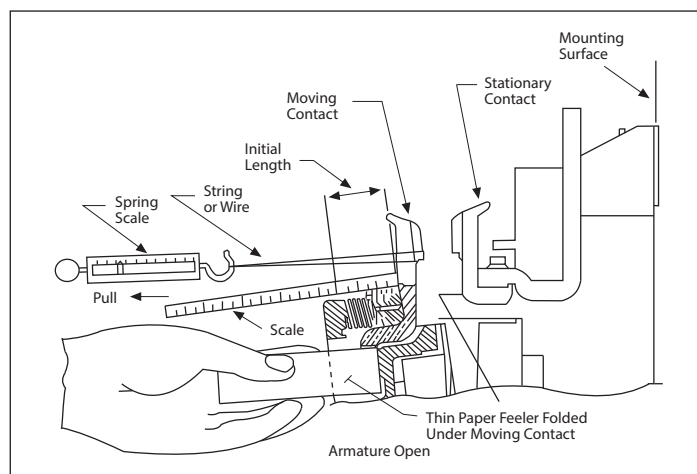

Figure 8. Initial Contact Force And Spring Length Measurement
The initial contact overtravel, with new contacts, is 5/32 to 13/64 inches and is measured with the power off as shown in **Figures 8** and **9**. Contact replacement is necessary when the overtravel on any pole has been reduced to 3/64 inch. The contacts must be replaced on all poles at the same time. Contact replacement is then achieved by the following procedure with the power off:
- Initial force 7.5 to 8.5 pounds (**Figure 8**)
After turning off the power, contact forces per pole may be measured by exerting a measured pull until the paper is allowed to move using the method shown in **Figures 8** and **9**.